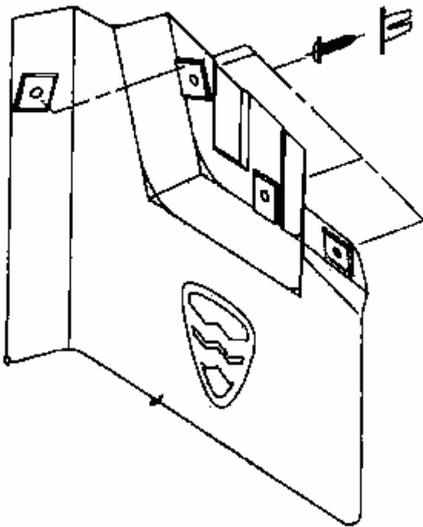

Fig. 19-35
- ① Attach front wheel rear splash guard firmly to body in its right position;
- ② Tighten the screw to fix the wheel rear splash guard firmly according to the arrow direction with tapping screw as shown in Fig.19-35.